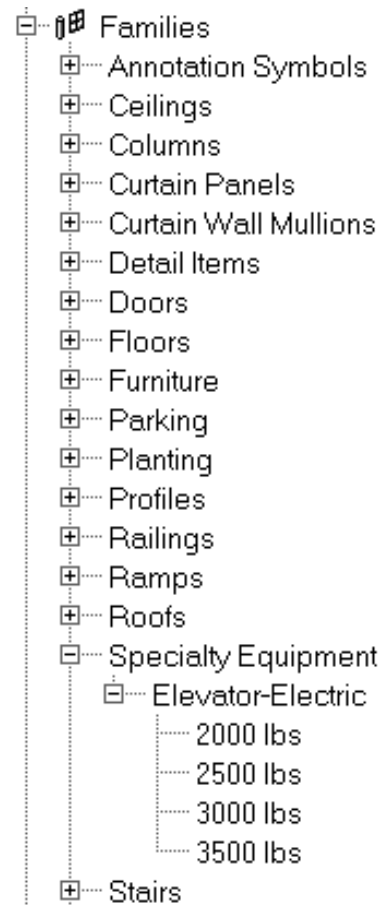

Figure 3-4.5b Elevator library:
12. In the *Project Browser*, click the plus next to Families to expand the list (Figure 3-4.5b).
13. Expand the **Specialty Equipment** list, and then **Elevator-Electric**. (Figure 3-4.5b)